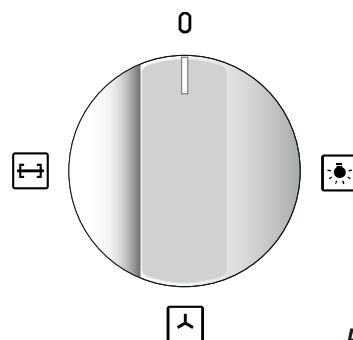

Fig. 4.5a
The fan is controlled by a knob (fig. 4.5a, 4.5b or 4.5c).
- To operate the fan motor turn the knob indicated in fig. 4.5a, 4.5b or 4.5c to  or  position. (In the position  also the rotisserie motor is operating).
To light the oven lamp turn the knob (fig. 4.5a, 4.5b, 4.5c or 4.9a or 4.9b) to the symbol .
The rotisserie motor is operated by a switch knob (fig. 4.5a, 4.5c or 4.9b-  or  position).